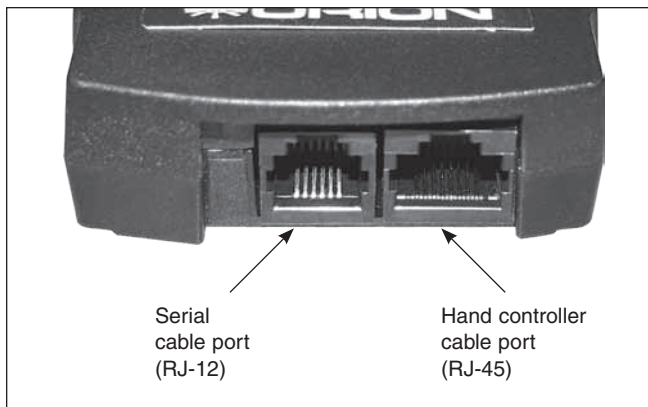

Figure 14. The GoTo hand controller ports
3. Connect the other end of the coiled cable to the hand controller modular jack (**Figure 14**).